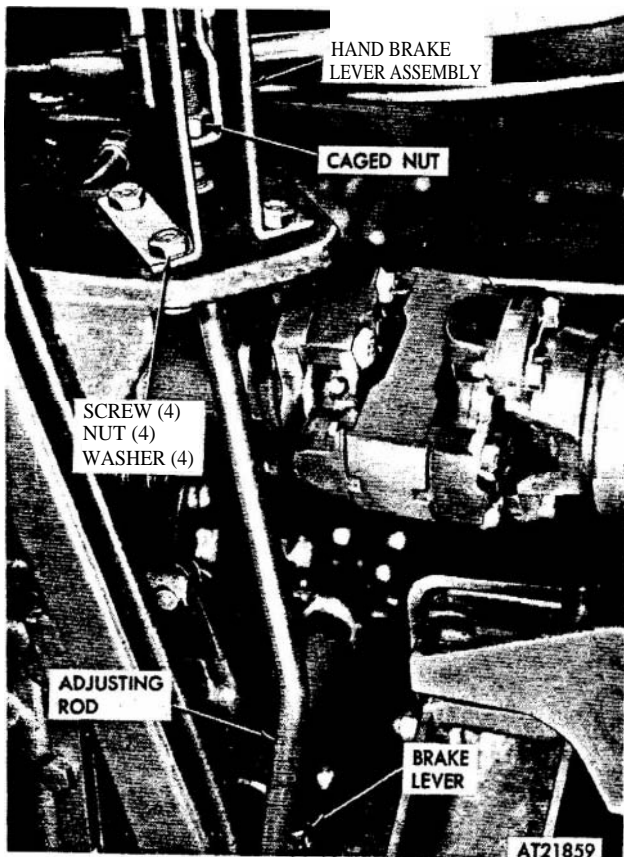

Figure 2-206. Aligning adjusting rod and brake lever.
- (5) Lift up on brake lever until it just stops. Align holes in adjusting rod and brake lever by turning adjusting rod in or out of caged nut in hand brake lever assembly (fig 2-206).
- (6) Secure adjusting rod and brake lever using one clevis pin, washer, and cotter pin.
- (7) Install console (refer to para 2-33).
- (8) Install tractor seats (refer to para 2-221).
- (1) Perform maintenance operation prescribed in para 2-158b, steps (1),(2), and (3) above.
- (2) Disconnect hand brake lever assembly from the transfer case by removing four screws, nuts, and washers (fig 2-206).
- (3) Remove adjusting rod and caged nut from hand brake lever assembly.
- (1) Assemble adjusting rod and nut to hand brake lever assembly.
- (2) Secure hand brake lever assembly to transfer case (fig 2-206) using four screws, nuts, and washers.
- (3) Perform maintenance adjustment (refer to para 2-158b).